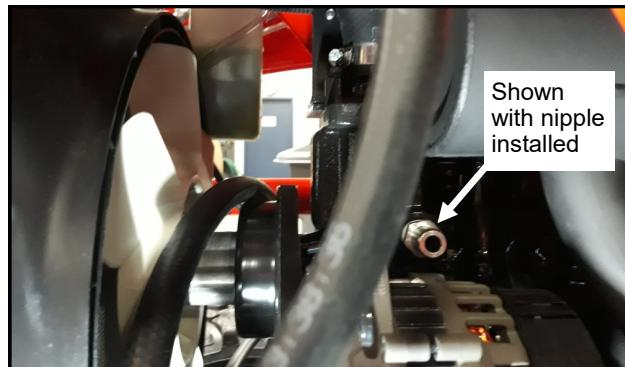

Fig. 14.2A (Remove Plug from Engine) CK2610
**14.2** See Figure 14.2A (CK2610) and 14.2B (other models). For the supply line for the heater, remove the plug from the thermostat housing. Install the 1/2" NPT nipple into the thermostat housing using Teflon tape (not provided).